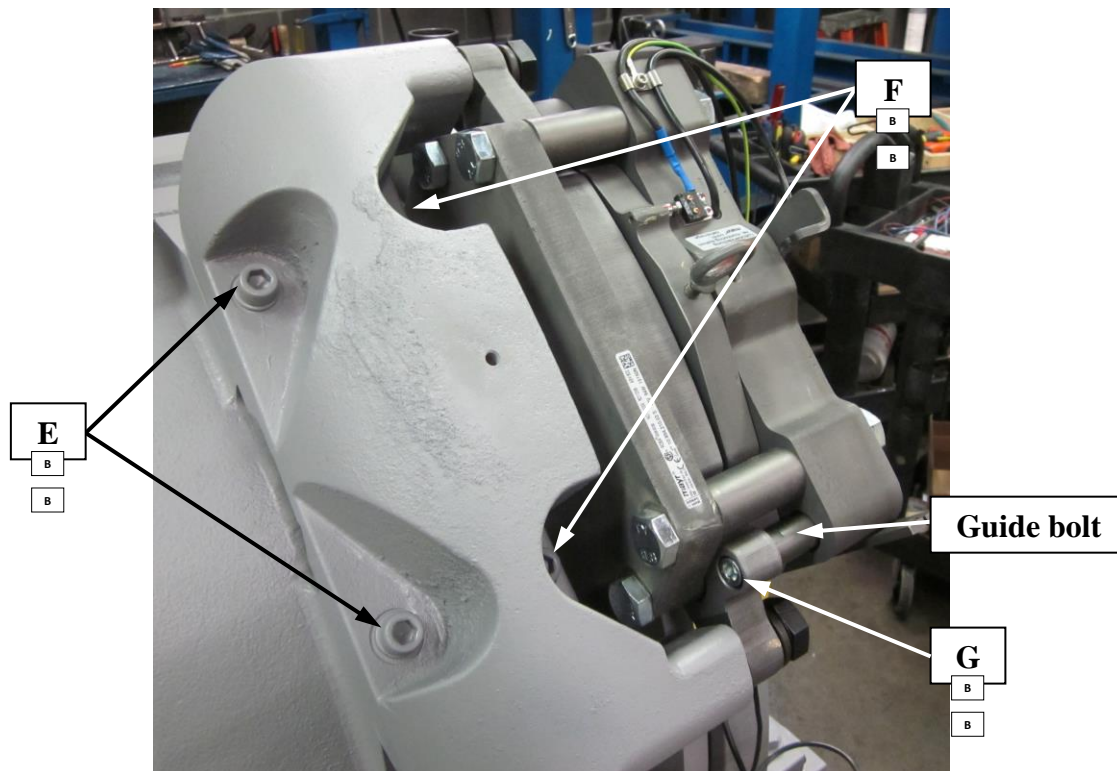

Figure 18
- With the brake release handle un-actuated, adjust nuts, "D" to allow enough cable to protrude through brake arm to attach ball joint rod end to arm. See Figure 18